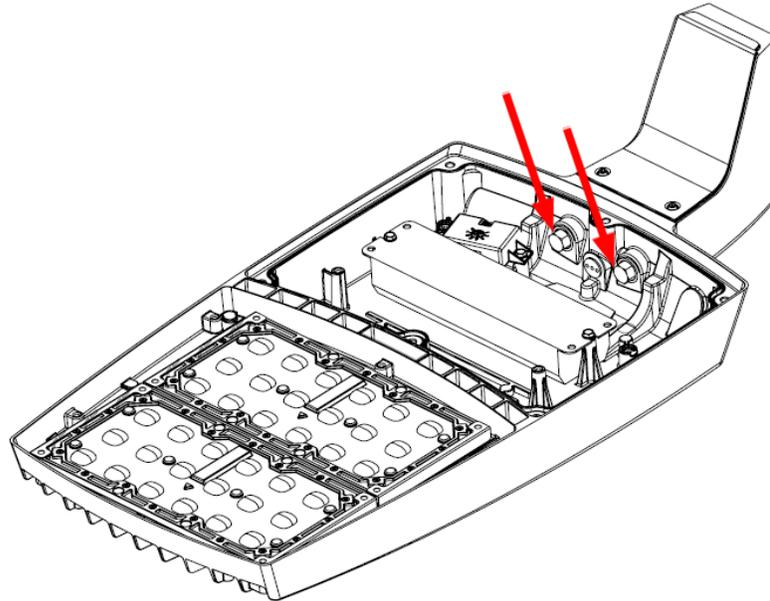

Figure 2 – RSX arm screws. RSX2 shown
Step 4: Using a torque wrench and 5/8" socket, loosen and remove the 2 bolts securing the arm to the housing, shown in figure 2 on the next page. After the bolts have been completely loosened, remove them along with the sealing washers around them and discard.
Step 1: If the sealing washers (items #6) included with the repair kit are still loose, insert them onto the 7/16-14 bolts (items #5). Insert the bolts into the thru holes on the housing where the previous bolts were removed from (see figure 2 for reference). With the replacement RSX arm sealing gasket (item #2) in place on the housing, align the new arm assembly and attach it via the new bolts. **Tighten the bolts to 36.7 – 40.3 ft-lbs. (440-490 in-lbs.).**
Step 1: If the sealing washers (items #2) included with the repair kit are still loose, insert them onto the 7/16-14 bolts (items #1). Insert the bolts into the thru-holes on the housing where the previous bolts were removed from (see figure 2 for reference). With the replacement RSX arm sealing gasket (item #3) in place on the housing, align the new arm assembly and attach it via the new bolts. **Tighten the bolts to 36.7 – 40.3 ft-lbs (440-490 in-lbs).**